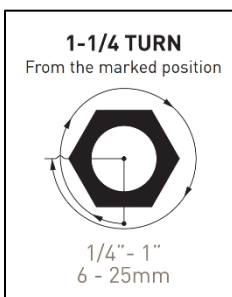

Figure 2 : Additional turn(s) past initial six (6) o'clock position.
3. With a permanent pen, mark the nut in the six (6) o'clock position.
4. While holding the tube fully bottomed, tighten the nut with a wrench an additional 1-1/4 turns to the nine (9) o'clock position; see Figure 2.